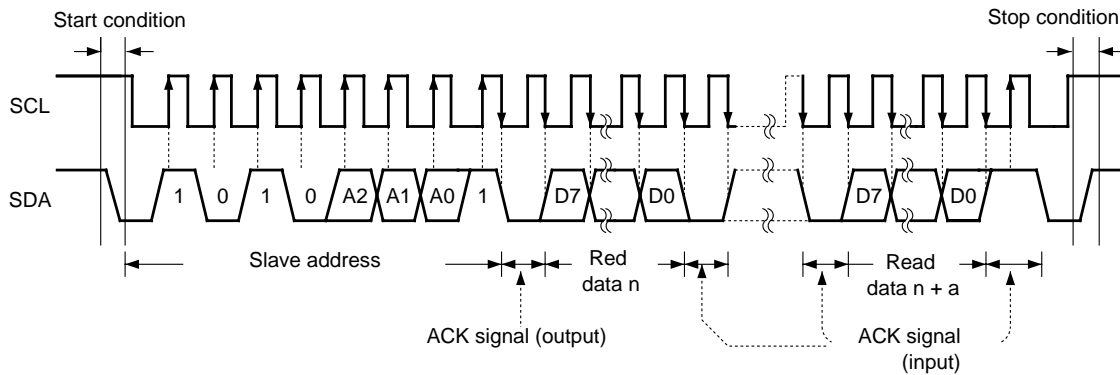

Fig.16 Sequential read cycle (BR24C01A / AF)
- When an ACK signal LOW is detected after D0 and a stop condition is not sent from the master ( $\mu$ -COM), the next word address data can be read. [All words all read enabled] (See Figures 16 to 18 for the sequential read cycles.)
(See Figures 16 to 18 for the sequential read cycles.)